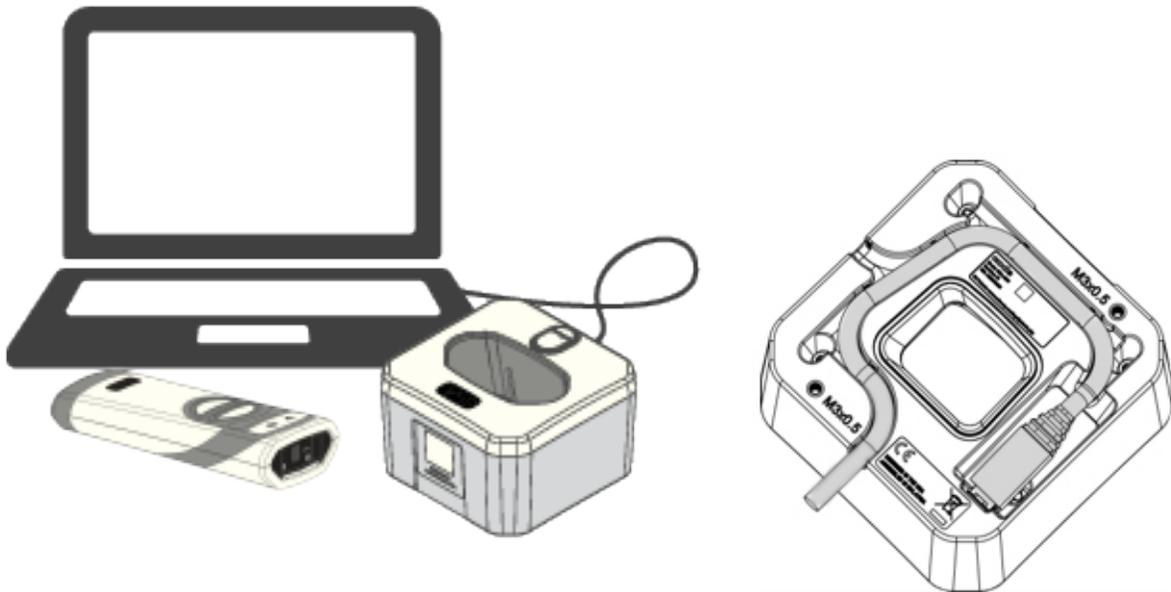

Figure 7 Connect Charging Station
**5.8.1** Insert the micro USB connector of the cable to the micro USB port on the bottom of the charging station (Figure 7).